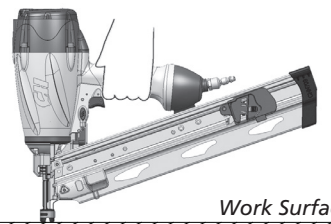

Figure 19
5. Depress the WCE against the work surface without pulling the trigger (See Figure 19). The nailer **MUST NOT OPERATE**. Do not use the tool if it operates without pulling the trigger. Personal injury may result.